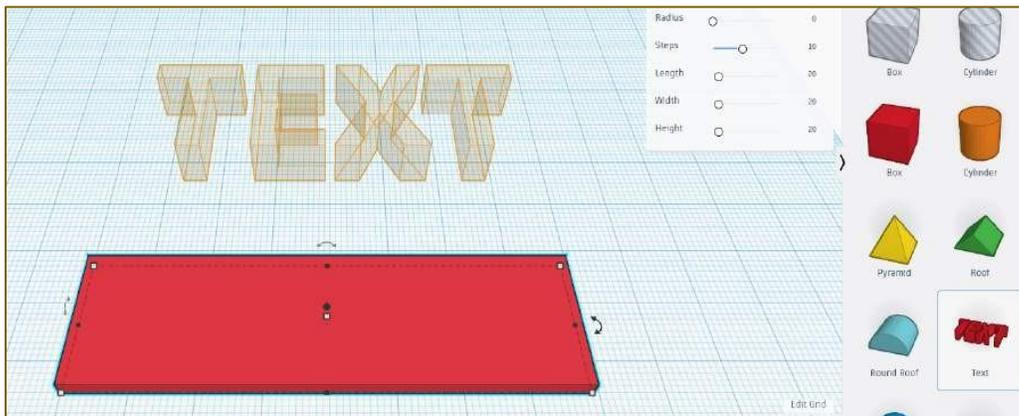

Fig.2.16 Dragging text into workplane
5. Click and drag the Text shape onto the Workplane. (Refer fig. 2.16)